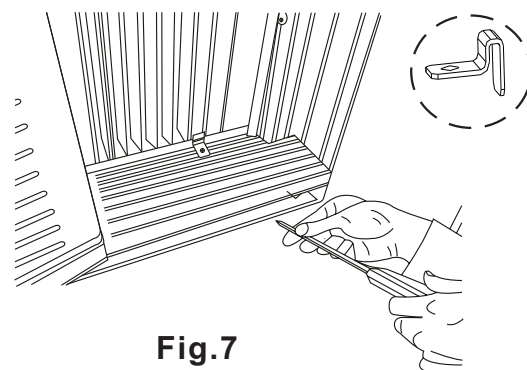

Fig.7
- A. Place the frame lock between the frame extensions and the window sill as shown(Fig.7). Drive 3 / 4 " (19mm) or 1 / 2 " (12.7mm) locking screws through the frame lock and into the sill .